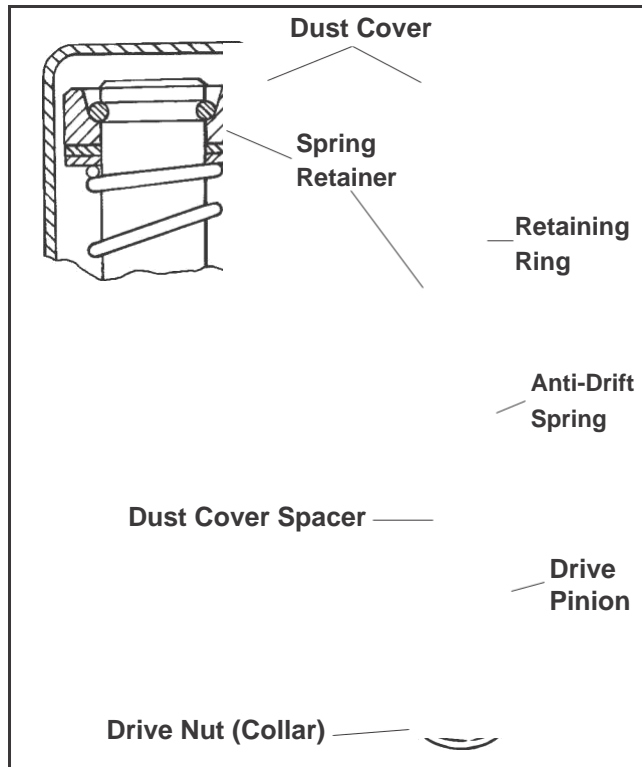

Figure 8-11. Drive Components, "Bonded" Inertia Drive Starter.
1. The rubber dust cover has a molded lip on the inside that snaps into a groove in the dust cover spacer (see Figure 8-11). Turn the drive pinion clockwise until it reaches the fully extended position. While holding it in the extended position, grasp the tip of the dust cover with a pliers or vise grip and pull it free from the spacer.
3. Again referring to Figure 8-11, grasp the spring retainer and push it toward the starter, compressing the anti-drift spring and exposing the retaining ring.